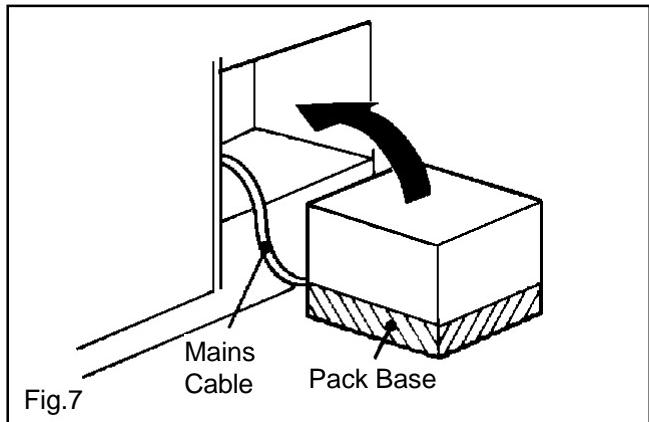

Fig.7
- Position the cooker in front of the cabinet. See Fig. 7.